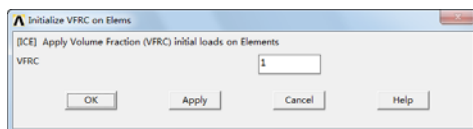

图 7-57 “Initialize VFRC on Elems”对话框
⑩依次选择 Main Menu→Preprocessor→Loads→Define Loads→Apply→Fluid/CFD→Volume Fract→Init Loads→On Elements，会弹出“Apply VFRC on Elems”选择对话框，单击“Pick All”按钮会弹出“Initialize VFRC on Elems”对话框，如图 7-57 所示，在“VFRC”